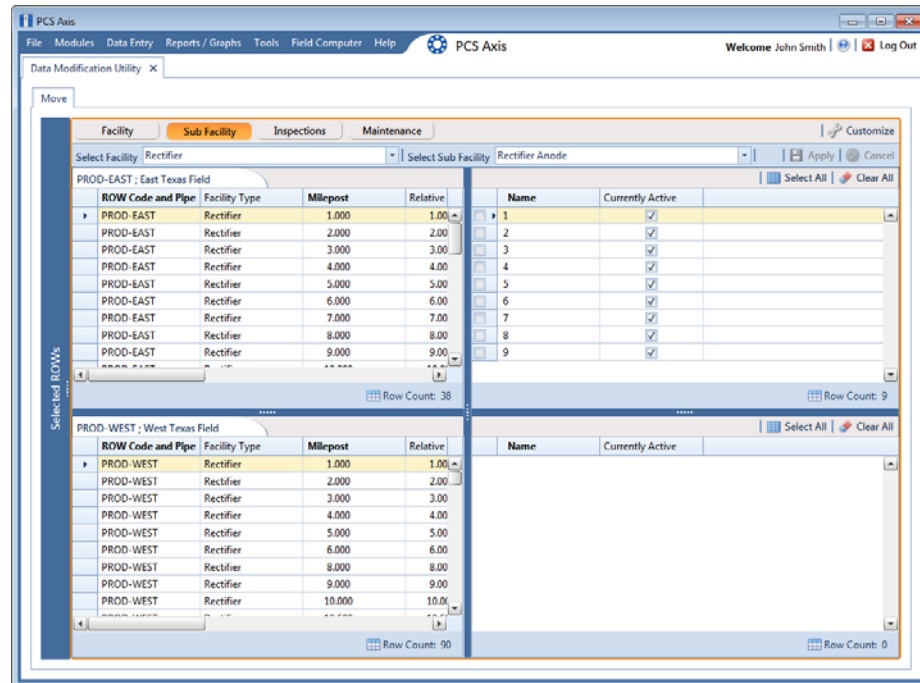

Figure 18-13. Sub Facility Move
- 4 Click the *Select ROWs* bar to close this panel (Figure 18-13).